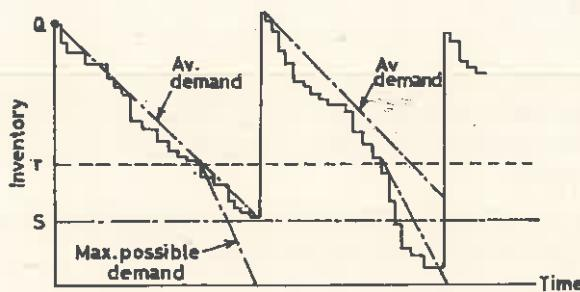

Fig 24.5. Inventory levels under conditions of fluctuating demand.
- Safety stocks (OS) can be defined as the difference between the reorder level and the average lead time demand (Fig. 24.5) Therefore as the reorder point is raised, the safety stock increases and the likelihood of a stockout during any cycle decreases.
- Fig. 24.5 shows the inventory pattern through time for a particular item which exhibits fluctuating demand.
- An order is placed whenever stock levels fall to ' r '. On the average, stock will be depleted to ' s ' when the replenishment order arrives. During the first cycle we see that demand was about average; however in the second cycle (Fig. 24.5) the demand was much greater than average. Protecting the system from a stockout during the lead time, was a safety stock maintained at S . If more protection was desired, the level of ' r ' could have been increased. With a higher ' r ', the safety stock would have been larger and the chances of a stockout occurring in any one cycle would have been lower.